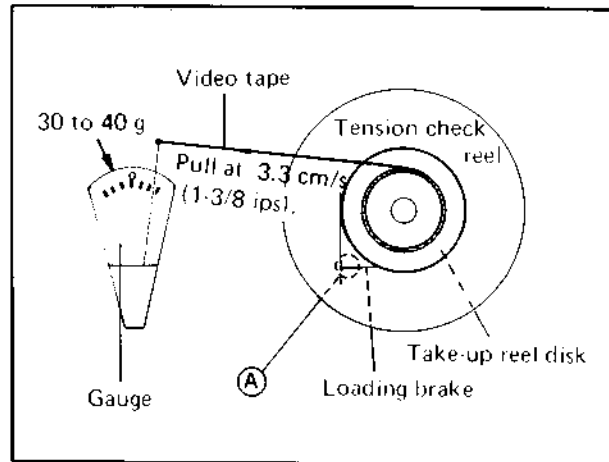

Fig. 5-11
5. Measure the take-up loading tension by pulling the video tape and reading tension gauge as shown in Fig. 5-11. The measured loading tension should be between 30 and 40 grams.